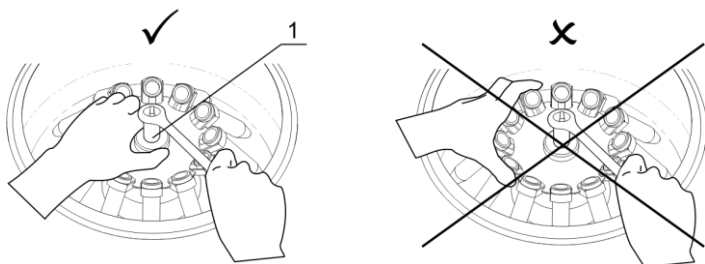

Figure 1. Rotor fixation
- Hold the rotor with one hand and, using the supplied wrench for rotor replacement (13 mm), turn the fixation nut (fig. 1/1) counter clockwise to release the rotor.
Caution! Do not hold the rotor by rings or adapters mounting when mounting and fixing it. Hold the rotor as shown on figure 1 (✓).
Warning! Check the rotor fixation every 10 days. Tighten the fixation nut if necessary, see figure 1.